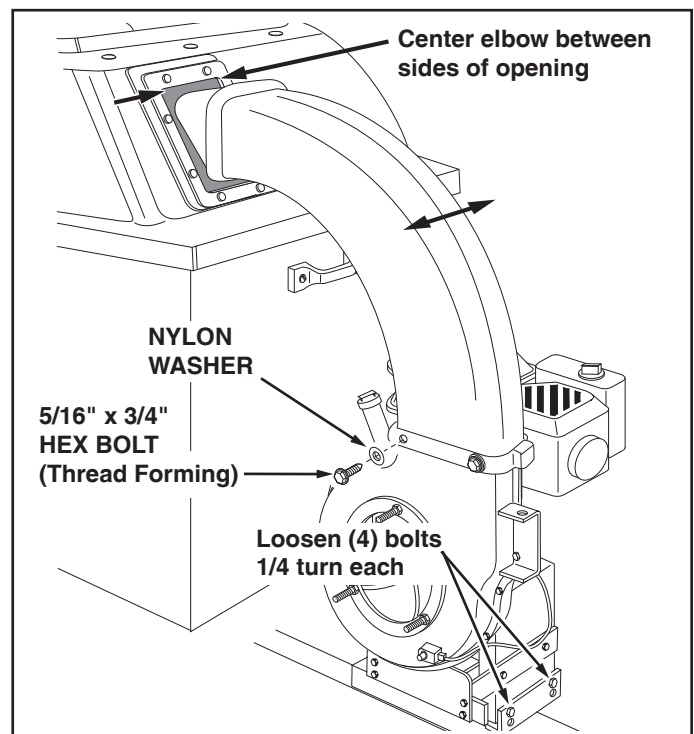

FIGURE 17
- Assemble the elbow to the impeller housing using four 5/16" x 3/4" thread forming hex bolts and four nylon washers. Push while turning to help start the bolts into the unthreaded holes. **Tighten.** See figure 17.
- b. Loosen by approximately 1/4 turn each, the four bolts that you assembled in figure 17.